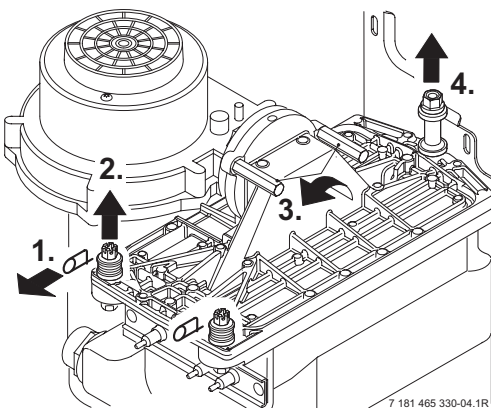

Fig. 56
- ▶ Remove the clips (1.) and unscrew the two bolts (2.). Refer to fig. 56.